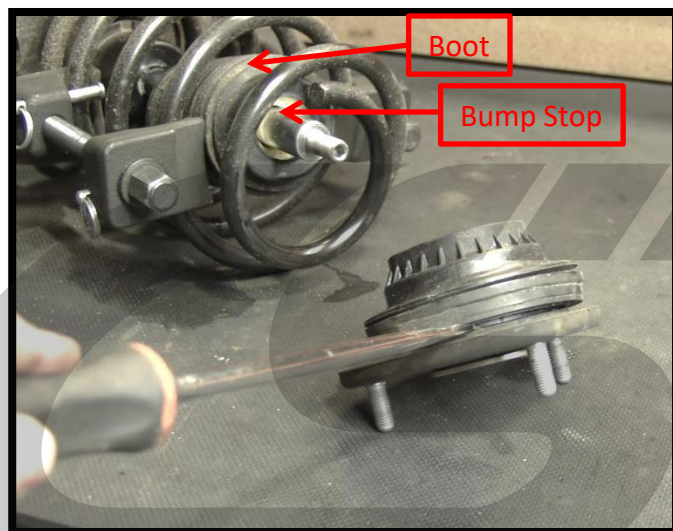

Figure 2i
- k) Remove the upper strut mount . Leave the boot, bump stop and spring on the strut (Figure 2i).
- l) Carefully separate the strut bearing from the strut mount (Figure 2i).
- k) Remove the upper strut mount. Leave the boot, bump stop and spring (red arrow) on the strut (Figure 2i).
- l) Use a flat blade screw driver to carefully separate the strut bearing from the strut mount (Figure 2i).